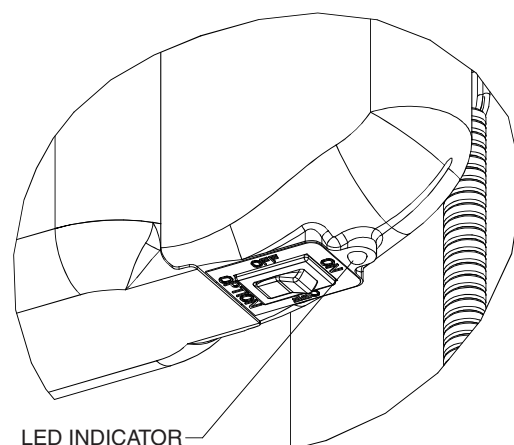

Figure 10
4. Refer to Figure 10, and VERIFY that the LED indicator lights GREEN.